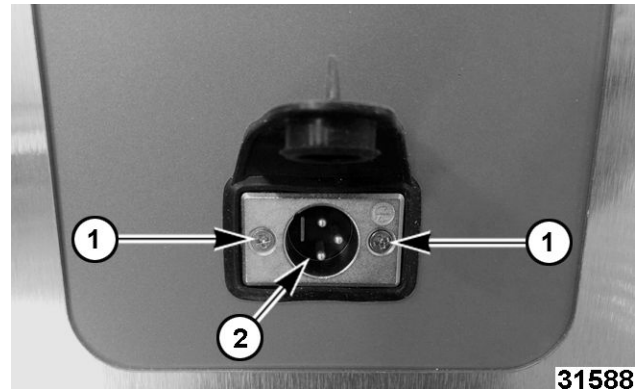
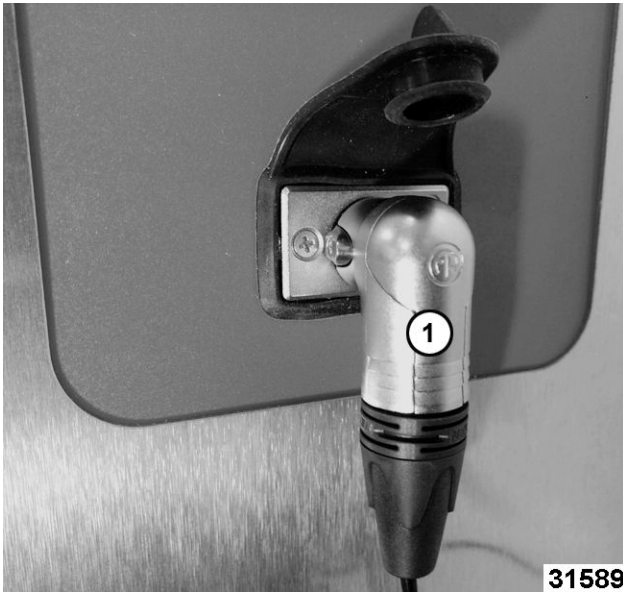

Fig. 48
Fig. 49
4. Remove screws (1, Fig. 48), nuts (from behind), and probe socket from control panel.
6. Align prongs (2, Fig. 48) as shown so meat probe (1, Fig. 49) plugs in with cord down.